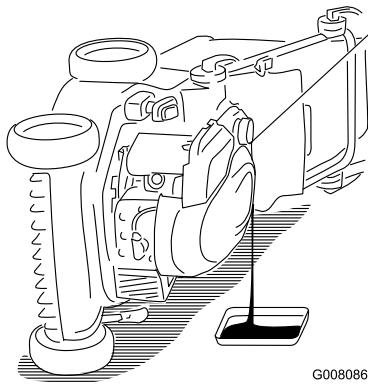

Figure 23
3. Tip the mower onto its side, with the air filter up, to drain the used oil out through the oil fill tube (Figure 23).